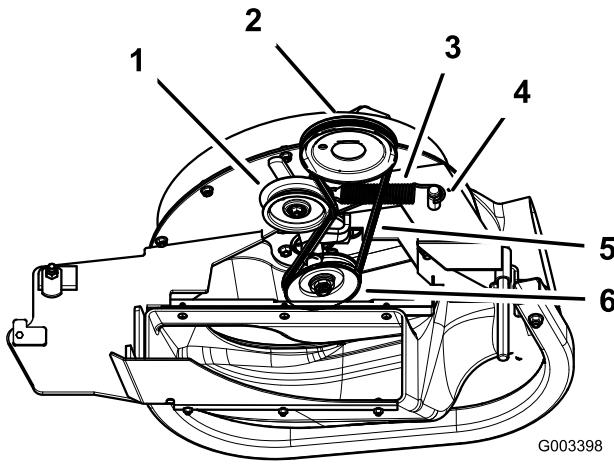

Figure 13
1. For 60- and 72-inch mowers, install the belt around the blower pulley (Figure 13).